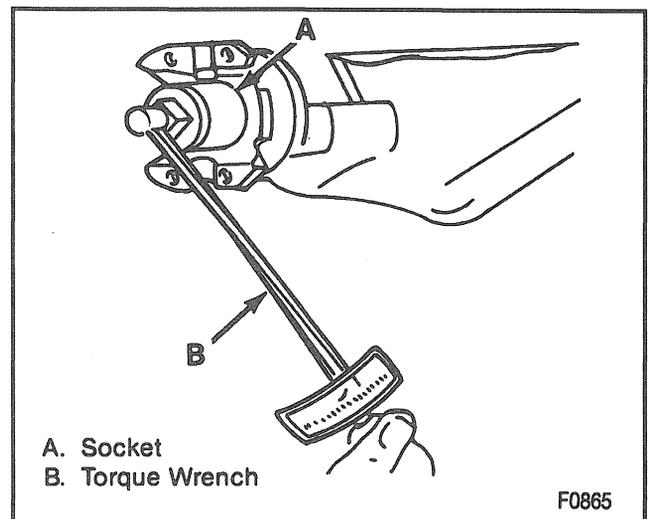

Figure 15—Measuring Pinion Rotating Torque
↔ Remove or Disconnect (Figures 15 through 18)
- The torque required to rotate the pinion (Figure 15). Record the torque value for later reference.
- The rotating torque of the pinion and compare with the torque recorded earlier (Figure 15).